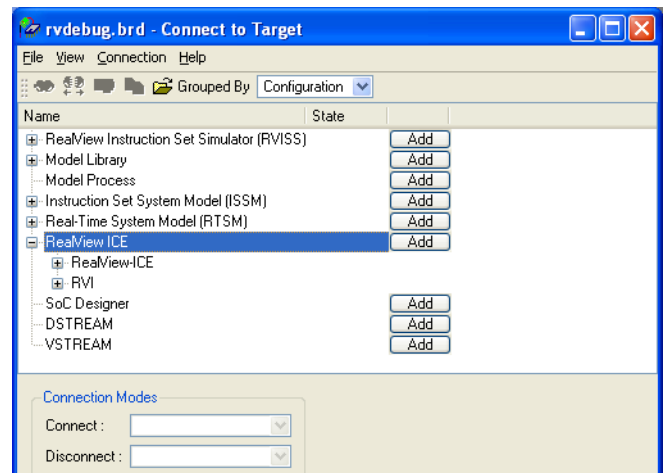

Figure 3-7 New Debug Configuration added
7. A new Debug Configuration is added. Figure 3-7 on page 3-61 shows an example after the RVI Debug Configuration is added.